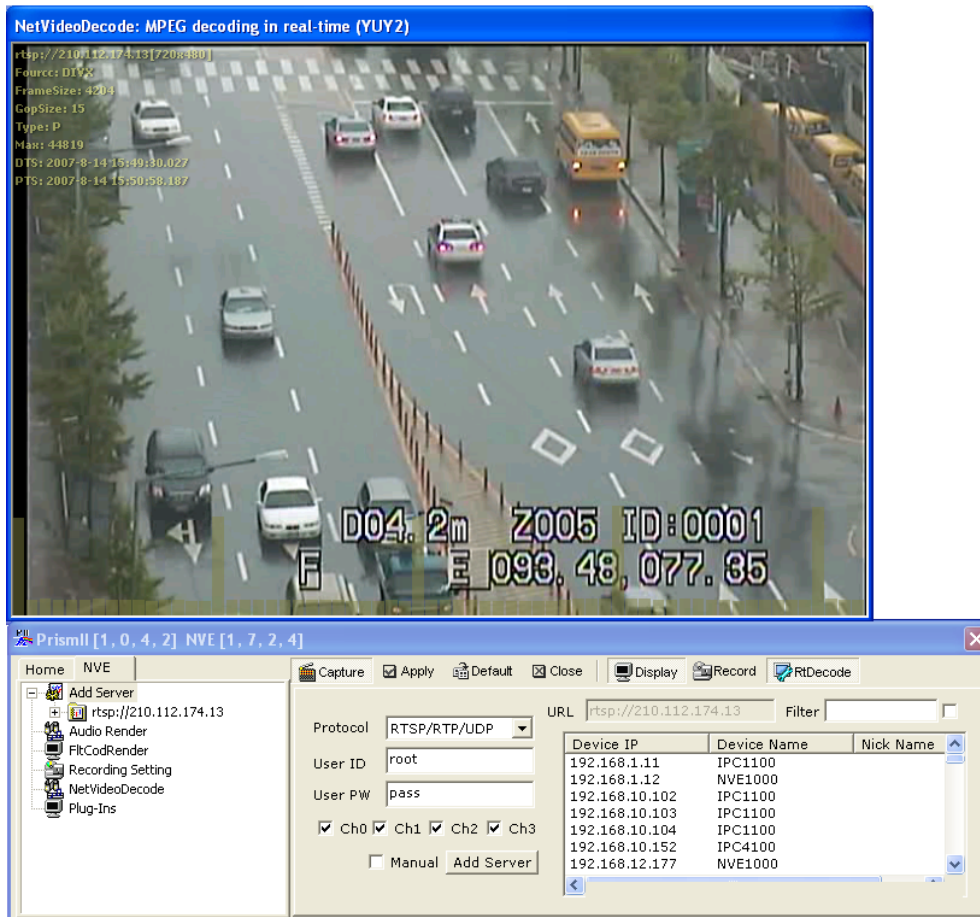

Figure 5. NVE RTDecode Screen
STEP 5 If *Capture* is clicked as shown in Figure 5, video data transmitted from all the connected channels of the NVE will be displayed.